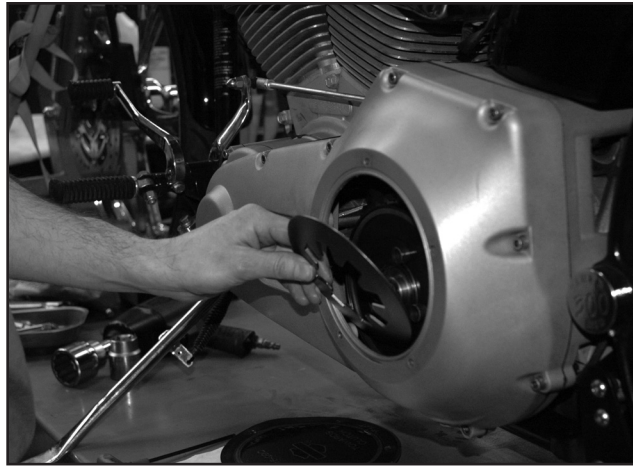

Figure 6.
7. Install the .093" spring, making sure that the spring seat is installed correctly in the pressure plate behind the spring. (refer to Figure 6.)